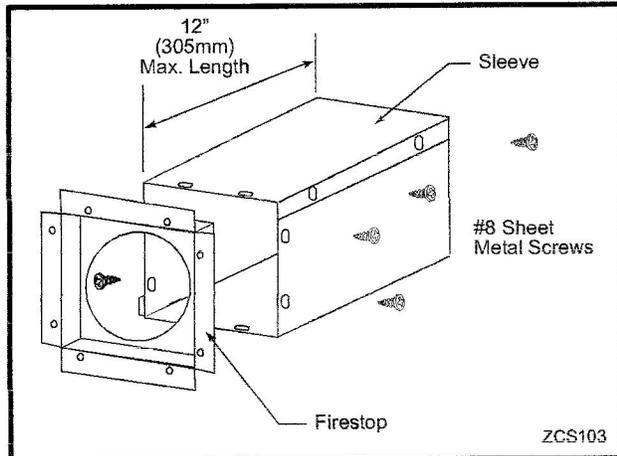

Fig. 30 Assemble the wall sleeve and firestop.
2. Measure the wall thickness and cut the wall sleeve sections to proper length (**MAXIMUM 12"**). Assemble the sleeve with the #8 sheet metal screws supplied. Attach the firestop plate to the sleeve end with the holes. (Fig. 30) **NOTE:** The wall sleeve is required in combustible walls only.
3. Install the Wall Firestop/Sleeve assembly into the wall cutout and fasten the firestop to the wall cutout framing members. (Fig. 30)